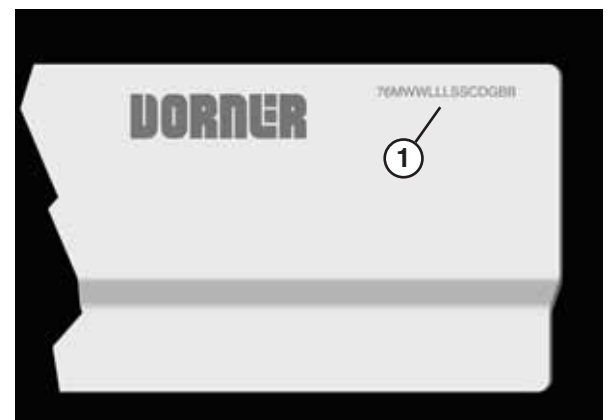

Figure 19
1. Locate the section number sequence etched on each section of frame (Figure 19, item 1).